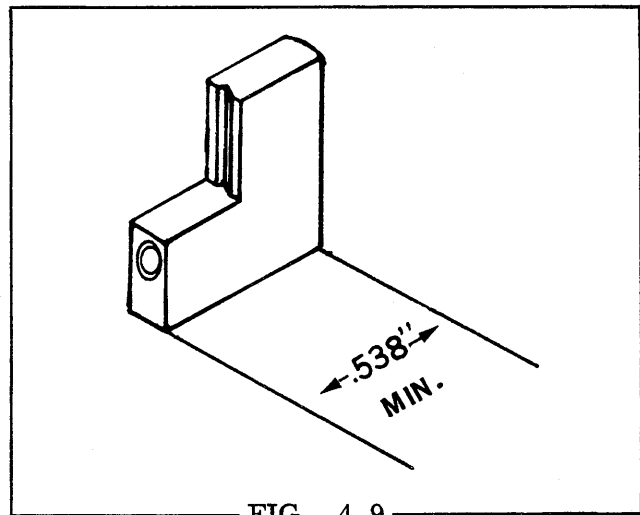

FIG. 4.9
10. Transfer Pump Blades - Inspect with the utmost care. Check for chipping on any of the edges, including spring bore edges, pitting, imbedded foreign particles or scoring on the rounded ends. Determine blade wear by measuring the length (0.538" minimum). Inspect flat surfaces visually for deep scores. If any discrepancies are noted, replace both blade sets and springs (Fig. 4.9).